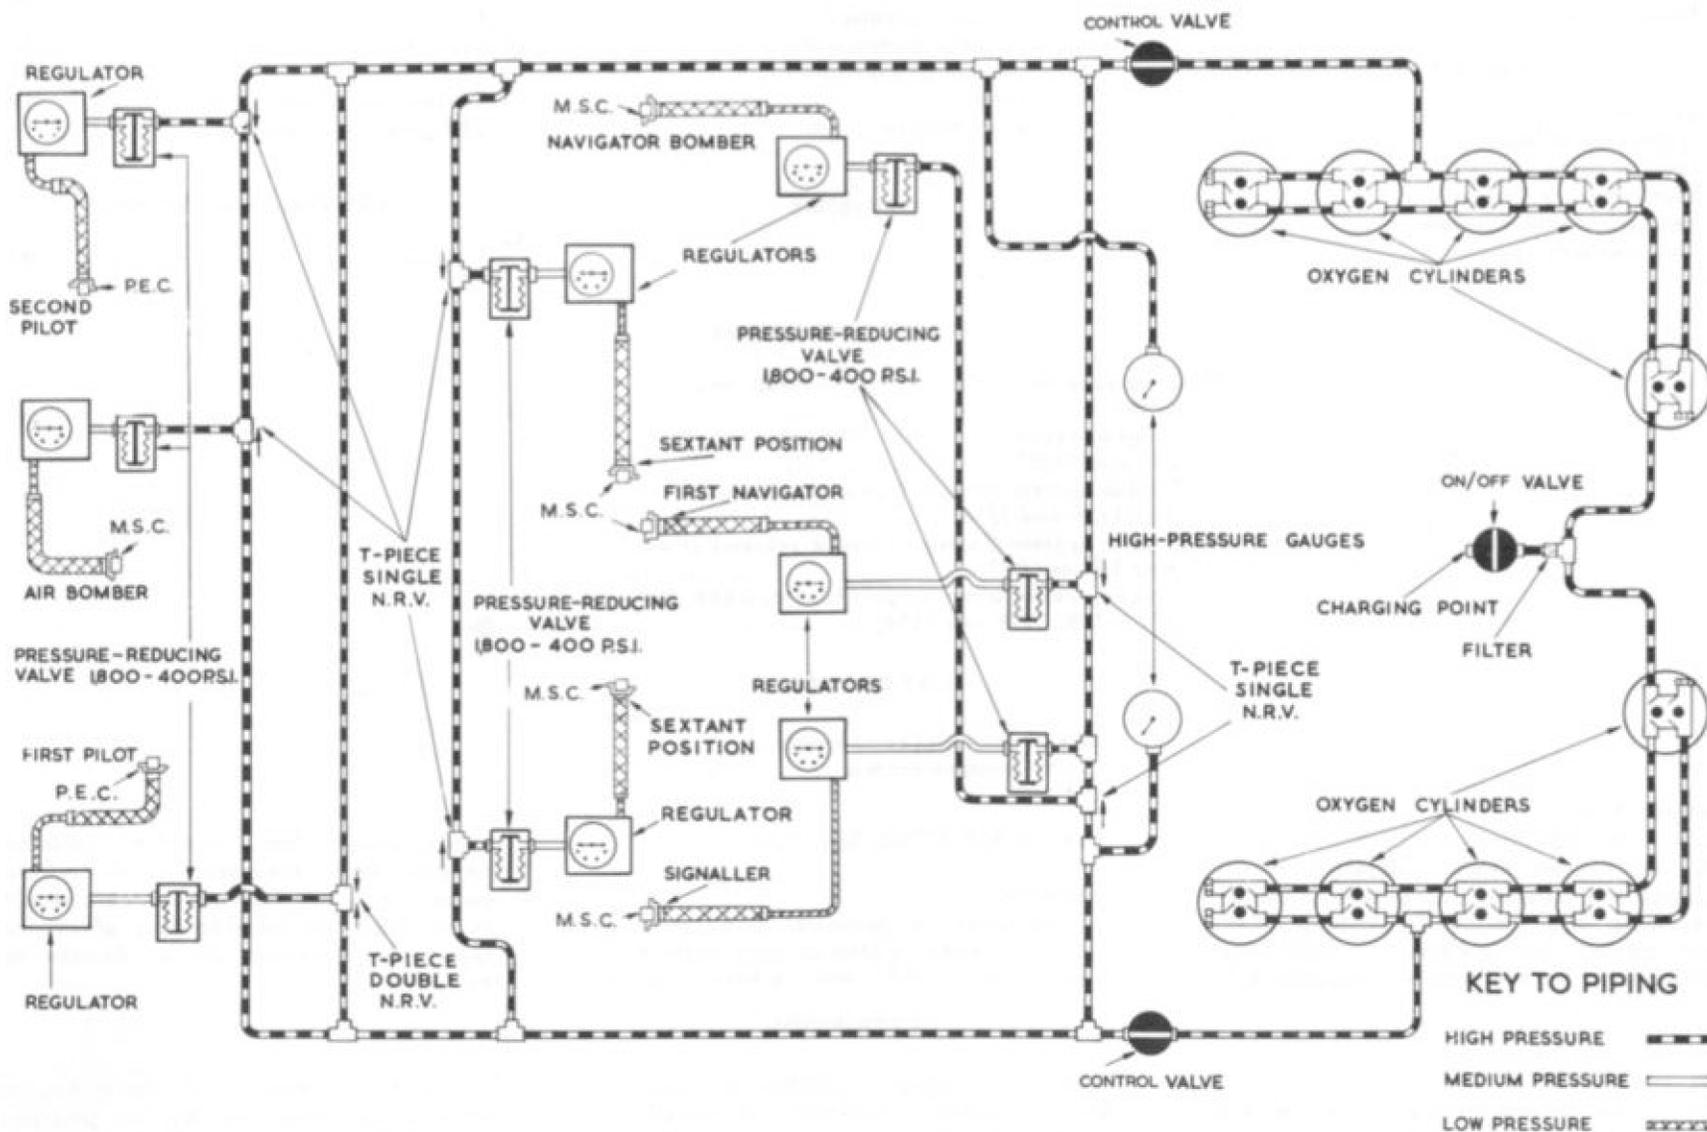

Fig. 1. Oxygen system diagram (Pre - Mod. 668 & 1159)
<p>Oxygen system diagram (Pre.Mod.668, and 1159) ... .. Fig. 1</p> <p>Oxygen system installation (Pre.Mod.668, 748, 897 and 1159) ... .. 2</p> <p>Oxygen system diagram (crew compartment) (Post Mod.1159 and 1378) ... .. 3</p> <p>Oxygen system diagram (storage system) (Post Mod.668 and 897)... .. 4</p> <p>Oxygen system installation (Post Mod.668, 748, 897, 1159, 1378 and 1696) ... .. 5</p>	<p style="text-align: right;">Fig.</p>
2. The oxygen system diagram and installation illustrations fig.1 and 2 show the basic oxygen system. Subsequent to